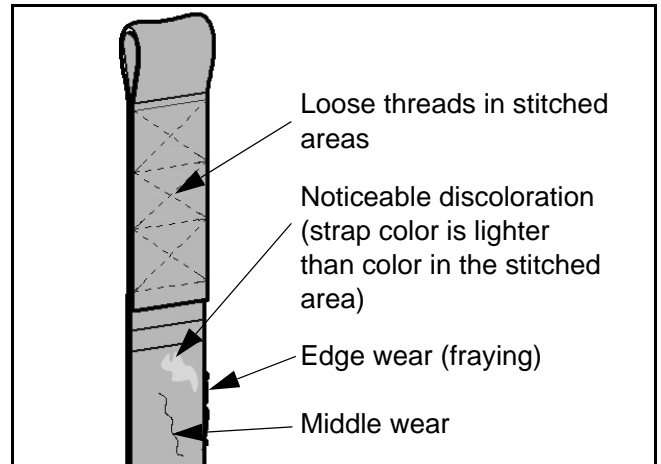

Fig. 10
- Inspect the strap for any visible signs of wear, frays, loose threads or other damage (see Fig. 10). If there is any evidence of damage, do not use it. Contact your local Joerns Healthcare agent to have the lift serviced.
- 2) Look for any signs of wear or discoloration (see Fig. 10).